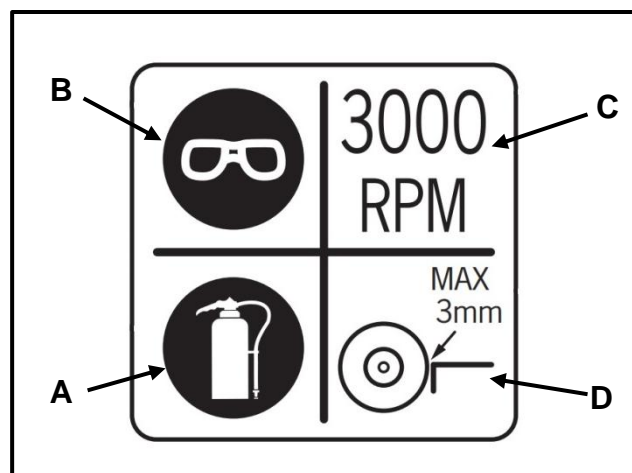

FIGURE 2.2
2.2 FIGURE 2.2 below shows a safety sign at a bench grinder. Explain what is meant by the signs labelled A–D.